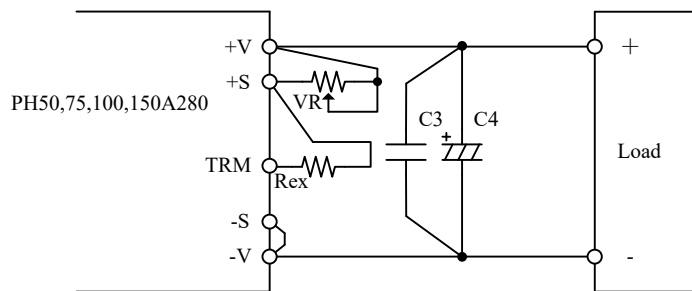

Fig.7-11 Example of Connecting External Resistor (To adjust output voltage for whole range)
Output voltage can be adjusted within specifications of output voltage adjustment range if resistance values of external resistor (Rex) and external variable resistor (VR) as follows are connected like a Fig. 7-11. Take note that output voltage do not become out of specifications when output voltage is adjusted.